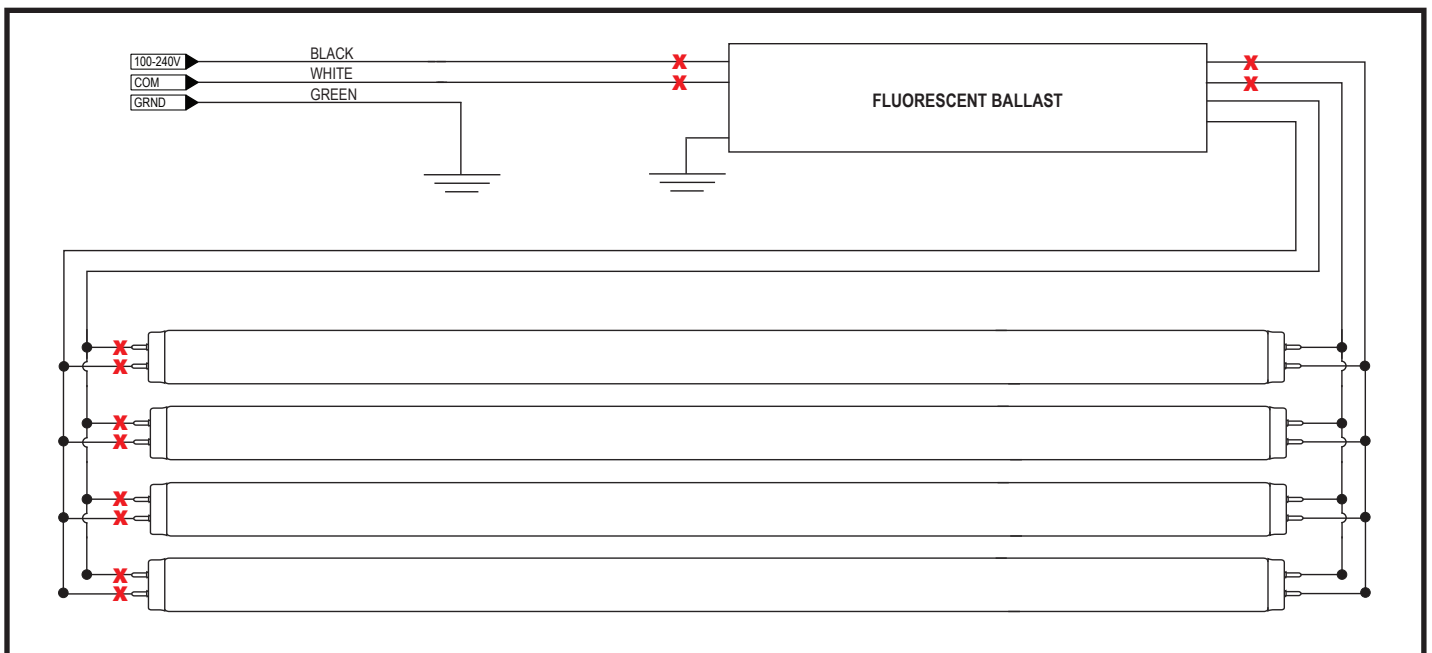

Fig. 2
6. Cut all wires that connect the ballast. Properly discard ballast and cut wires away from lamp holders (See Fig. 2)